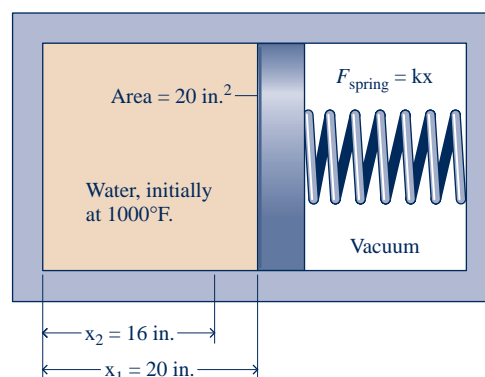

Fig. P3.83
3.83 Figure P3.83 shows a piston–cylinder assembly fitted with a spring. The cylinder contains water, initially at 1000°F , and the spring is in a vacuum. The piston face, which has an area of 20 in.^2 , is initially at $x_1 = 20 \text{ in.}$ The water is cooled until the piston face is at $x_2 = 16 \text{ in.}$ The force exerted by the spring varies linearly with x according to $F_{\text{spring}} = kx$, where $k = 200 \text{ lbf/in.}$ Friction between the piston and cylinder is negligible. For the water, determine